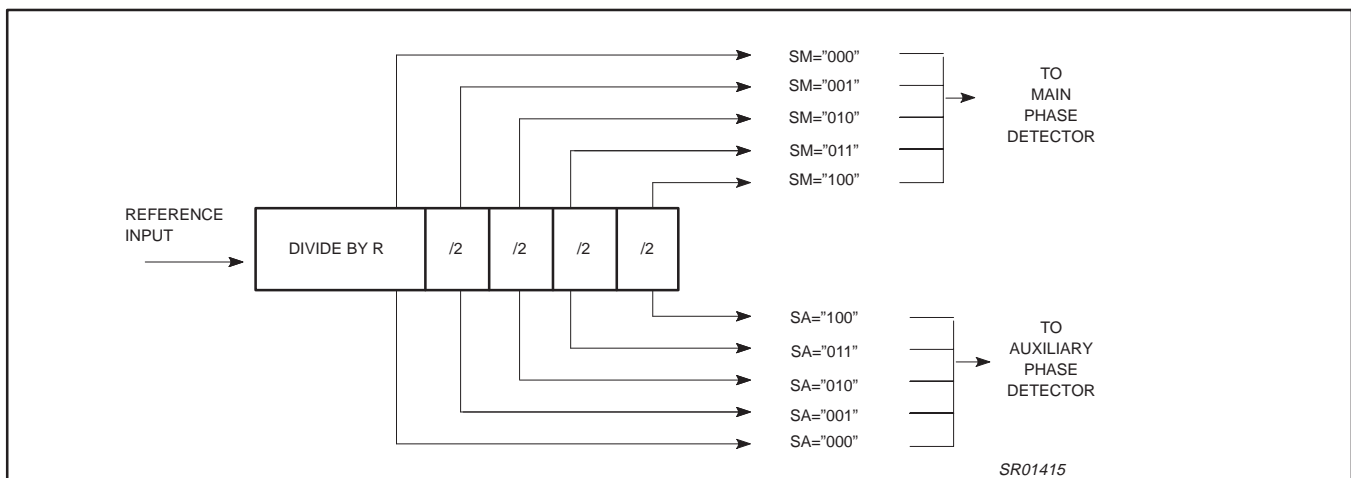

Figure 4. Reference Divider
The reference divider consists of a divider with programmable values between 4 and 1023 followed by a three bit binary counter. The 3 bit SM (SA) register (see figure 4) determines which of the 5 output pulses are selected as the main (auxiliary) phase detector input.